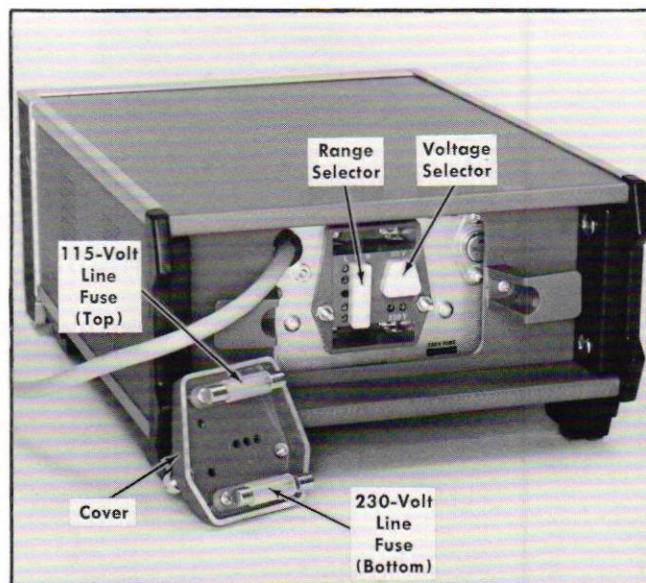

Fig. 2-1. Line Voltage Selector assembly on the rear panel (shown with cover removed).
3. To convert from 115-volt to 230-volt operation, pull out the Voltage Selector switch bar (see Fig. 2-1); turn it around and plug into the remaining holes. Change the power cord to match the powersource receptacle or use a 115-volt to 230-volt plug adapter.
4. To change regulating ranges, pull out the Range Selector switch bar (see Fig. 2-1); slide it to the desired position and plug it back in. Select a range which is centered about the average line voltage to which the instrument will be connected (see Table 2-1).